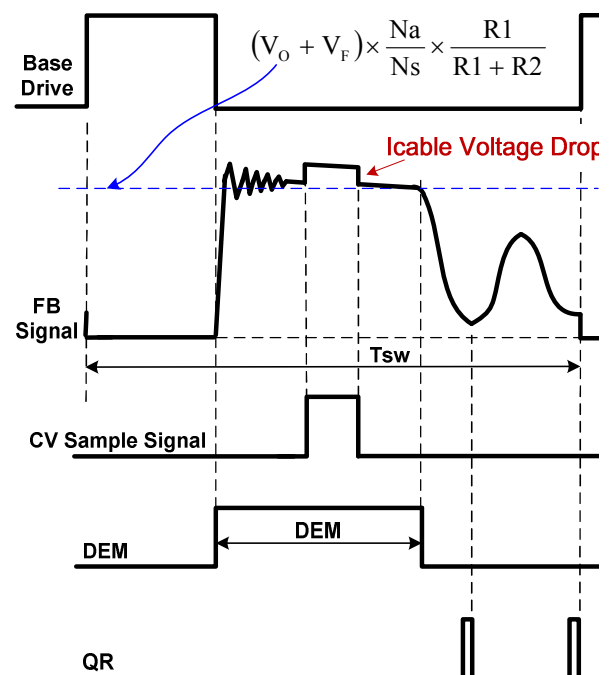

Fig.2
In Primary Side Regulation (PSR) control, the output voltage is sensed on the auxiliary winding during the transfer of transformer energy to the secondary. Fig.2 illustrates the timing waveform of CV sampling signal, demagnetization signal (DEM) and quasi-resonant (QR) trigger signal in DP1805. When the CV sampling process is over, the internal sample/hold (S&H) circuit captures the error signal and amplifies it through the internal Error Amplifier (EA). The output of EA is sent to the Quasi Resonant PSR CV Modulator (QR-CVM) for CV regulation. A valley is selected to trigger new PWM cycle by the output of the QR-CVM block, which is determined by the load. The internal reference voltage for EA is trimmed to 1.3V with high accuracy.
During the CV sampling process, an internal variable current source is flowing to FB pin for Cable Drop Compensation (CDC). Thus, there is a step at FB pin in the transformer demagnetization process, as shown in Fig.2. Fig.2 also illustrates the equation for